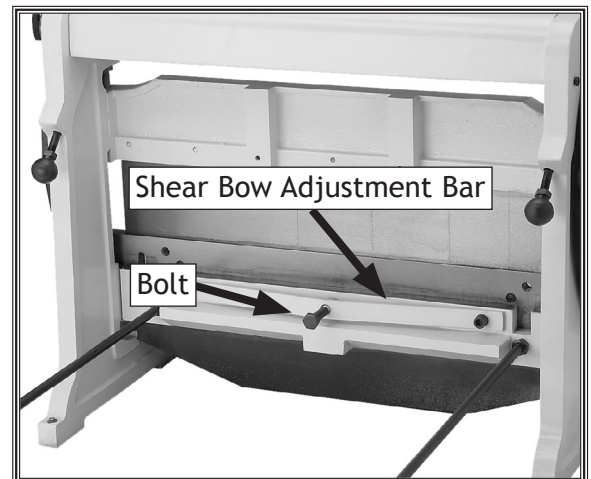

Figure 9. Shear bow adjustment bar.
1. Make small adjustments to the bolt attached to the shear bow adjustment bar (see **Figure 9**).